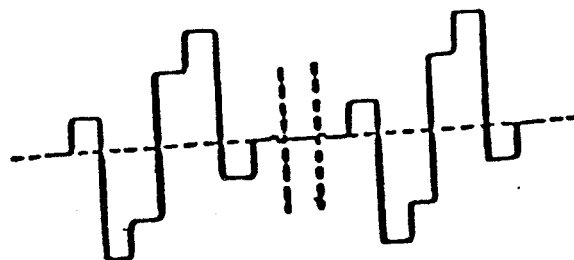

Fig.10 R-Y Signal
- 3) Adjust L204 to obtain an R-Y signal with correct chrominance output as shown in Fig 10.